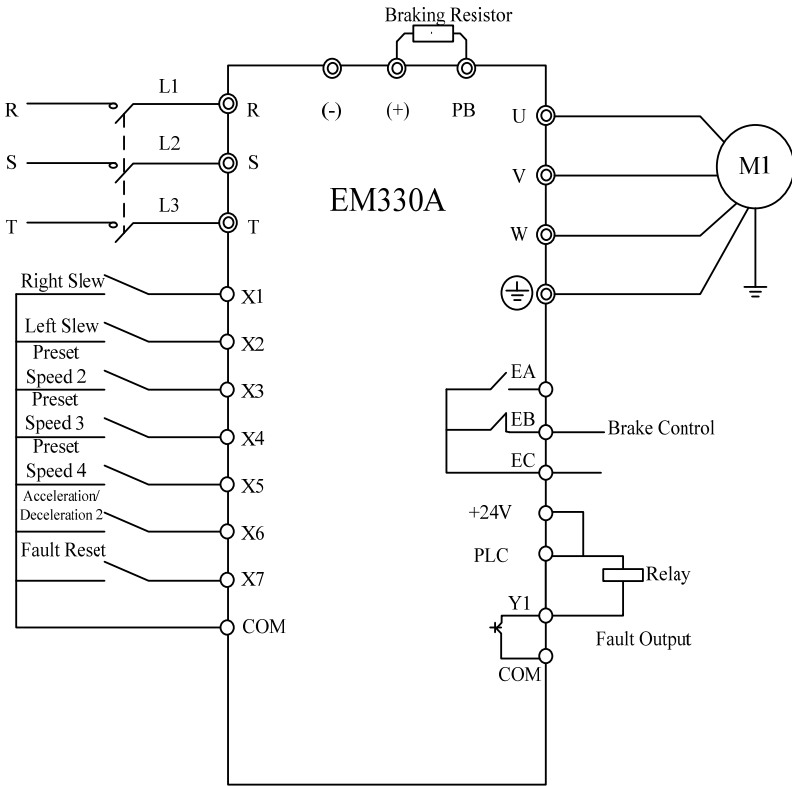

Figure 12-4 EM330A Wiring of Tower Crane Slewing
2. When EM330A selects F4-28 as tower crane slewing application macros, please configure terminals Xi, Y1 and R1 as per Figure 12-4.